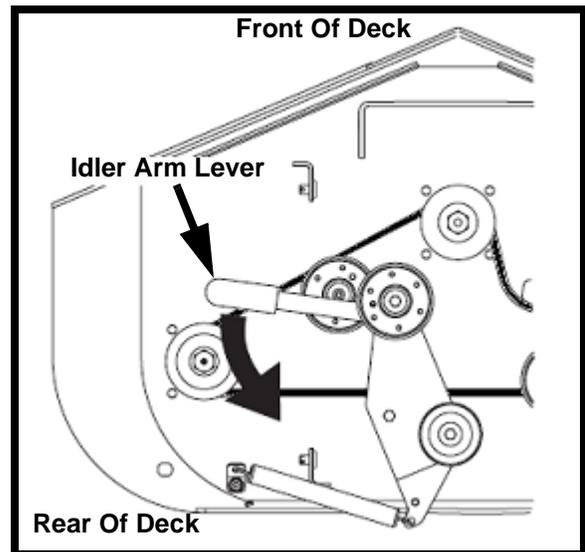

FIGURE 2
4. Reduce the tension on the PTO belt by moving the idler arm lever toward the back of the unit, then remove the belt from the pulley. See Figure 2.